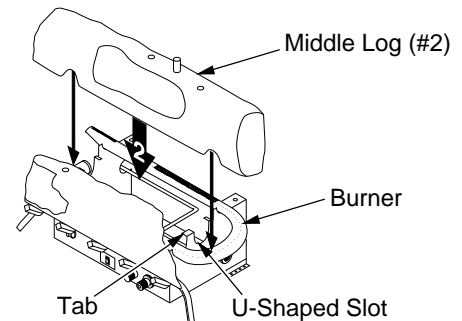

Figure 25 - Installing Middle Log (#2) (CCL3930PR/NR Shown)
2. Place the base of the middle log (#2) in the U-shaped slots of the grate base. The cutout on the right of the middle log should fit over the burner (see Figure 25). Make sure the front of the middle log is resting on the tabs of the grate base.